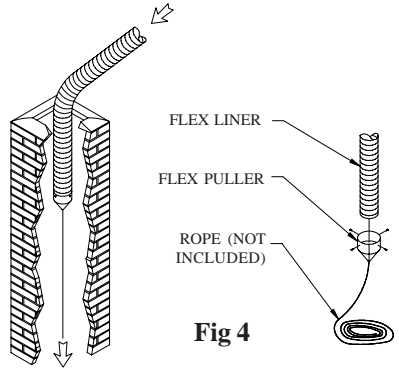

Fig 4
Step 4. Secure a rope to the Flex Puller and attach the Flex to DuraFlex SS Liner as shown in **Figure 4**. One person should feed the liner through the chimney, and another person should pull the liner from the bottom, using the rope to guide the liner through to the chimney bottom. The reason for using two people is that care
Step 4. Secure a rope to the Flex Puller and attach the Flex Puller to the Dura Flex SS Flex Liner. One person should feed the liner through the chimney from the top, while another should pull the liner from the bottom (**Figure 4**). Two people are needed to be sure that the Flex Liner is not damaged or torn.